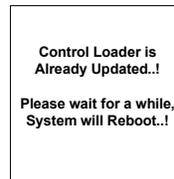

Figure 1-5 Control boot loader upgraded screen
- LCD should display the message as shown in Figure 1-5 on page 1-6, if control processor boot loader is already upgraded.